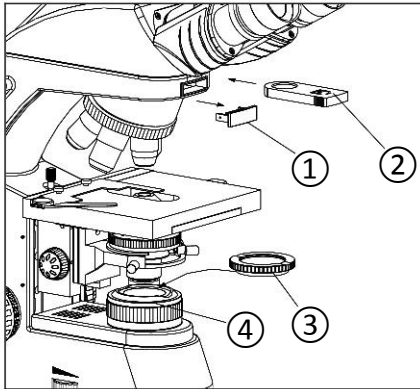

Fig. 21
Simple polarizing includes the analyzer (2) and the polarizer (3). (Fig. 21)